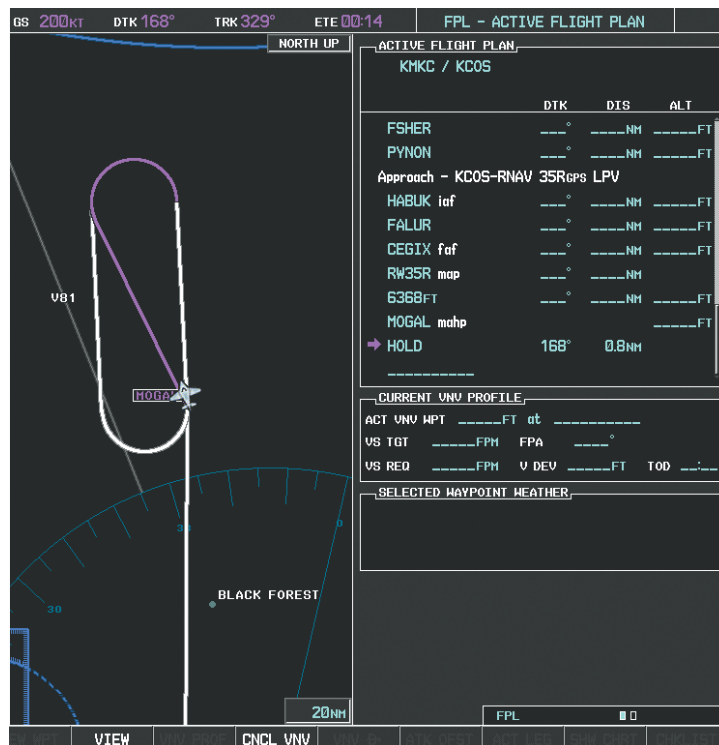

Figure 5-145 Establishing the Holding Pattern
- 26) The aircraft continues climbing to “AT or ABOVE” 10,000 feet at MOGAL. A holding pattern is established at the MAHP (MOGAL) as shown in Figure 5-145.